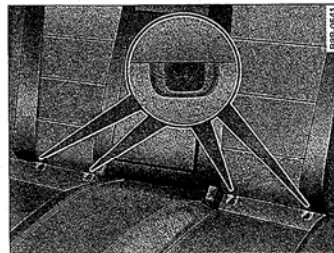

Fig. 180 Installation of child safety seat with rigid latches on bars
- Insert the latches onto the lower anchorages ⇒ page 248, fig. 180.